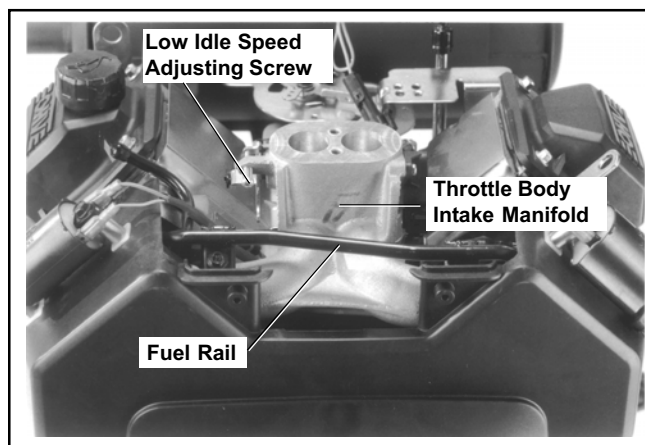

Figure 17. EFI Throttle Body Manifold.
3. Turn the low idle speed adjusting screw in or out and check RPM with a tachometer. See Figure 17.